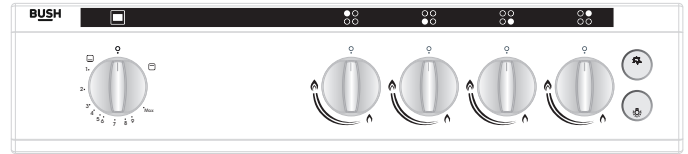

Figure 3
1. First identify the correct control knob by checking the symbols above each knob as shown in figure 3.